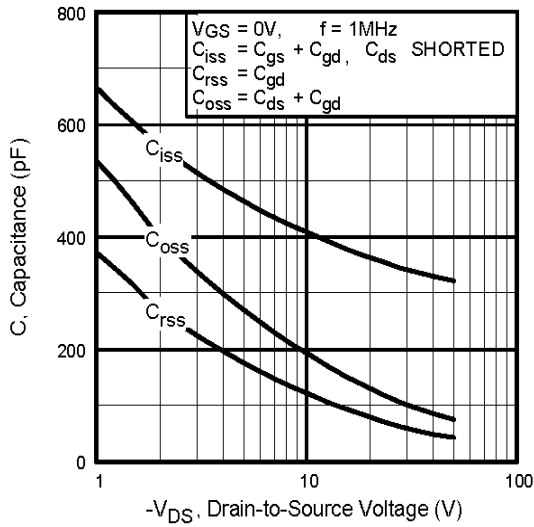

Fig 5. Typical Capacitance Vs. Drain-to-Source Voltage
| C_{rss} | Reverse Transfer Capacitance | --- | 70 | --- | | $f = 1.0\text{MHz}$, See Fig. 5⑤ |